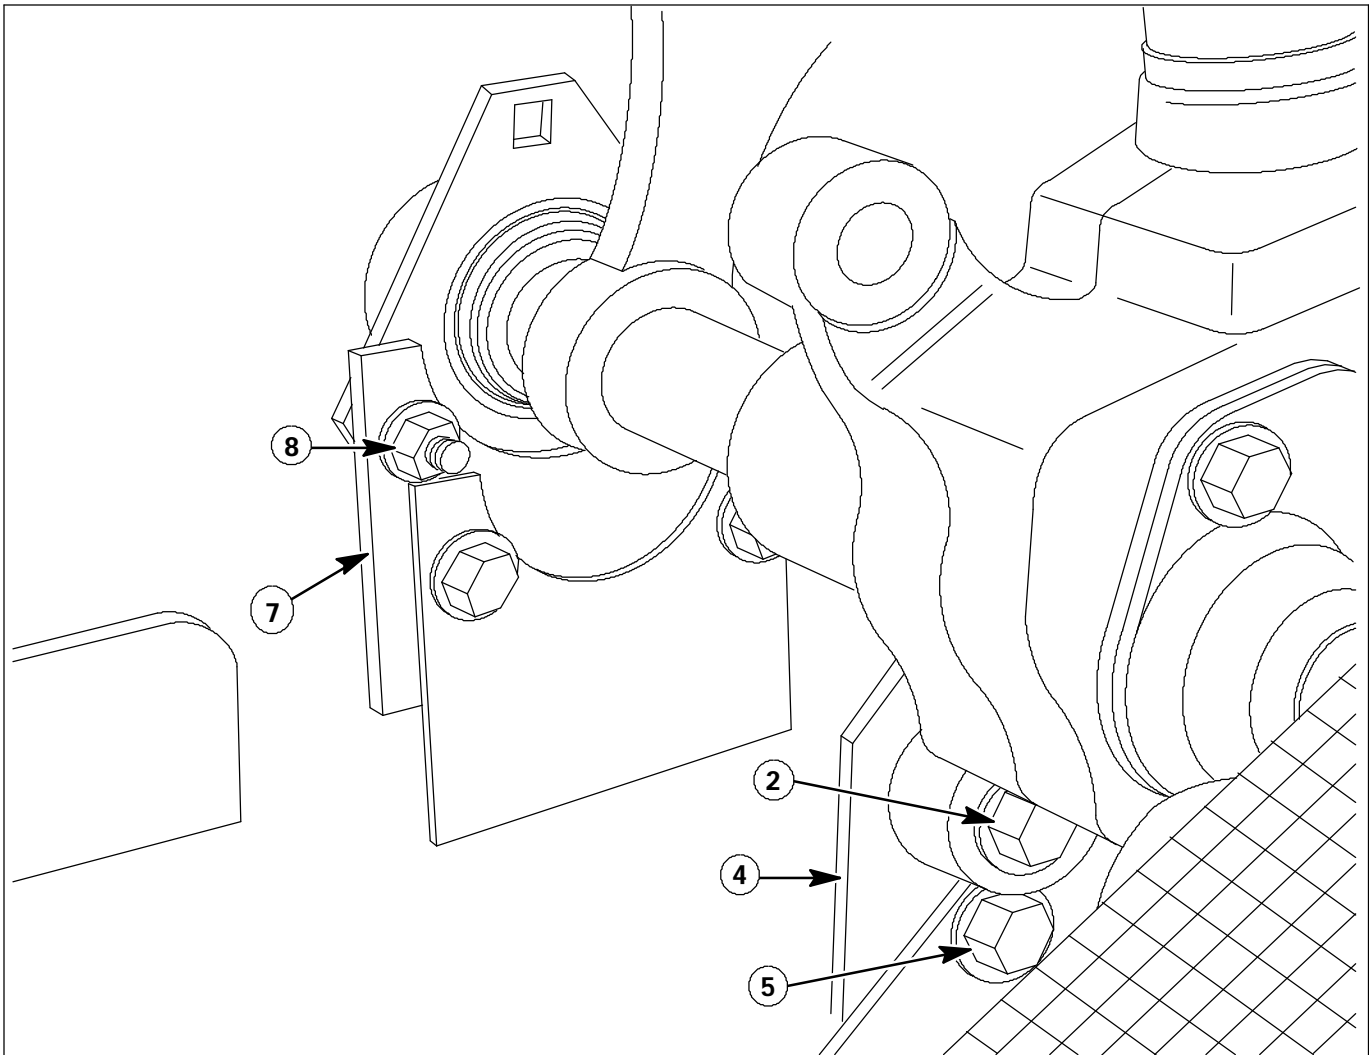

FIG. 1 Mounting New Bearing and Steering Gear Support Brackets
(Refer to FIG. 1, 2 and 3)
2. Mount the new bearing bracket (7) on the left side of the old bearing support, using two hex screws (8), flat washers (9) and flange nuts (10) as shown. Tighten with torque wrench to 36-47 ft. lbs. of torque. (Refer to FIG. 1)
3. Mount the new steering gear support plate (4) on the left side of the old plate, using two hex screws (5), and flange nuts (6) as shown. Tighten with a torque wrench to 65-85 ft. lbs. of torque. (Refer to FIG. 1)
5. Mount steering gear assembly loosely to new mounting brackets. Bolt bearing and flanges loosely to the left side of the new bearing bracket. (Refer to FIG. 1 and 2)
12. Tighten mounted gear mounting bolts (2) to 65-85lbs. of torque. (Refer to FIG. 1)
13. Tighten mounted bearing flanges to 16-21lbs. of torque. (Refer to FIG. 1 and 2)